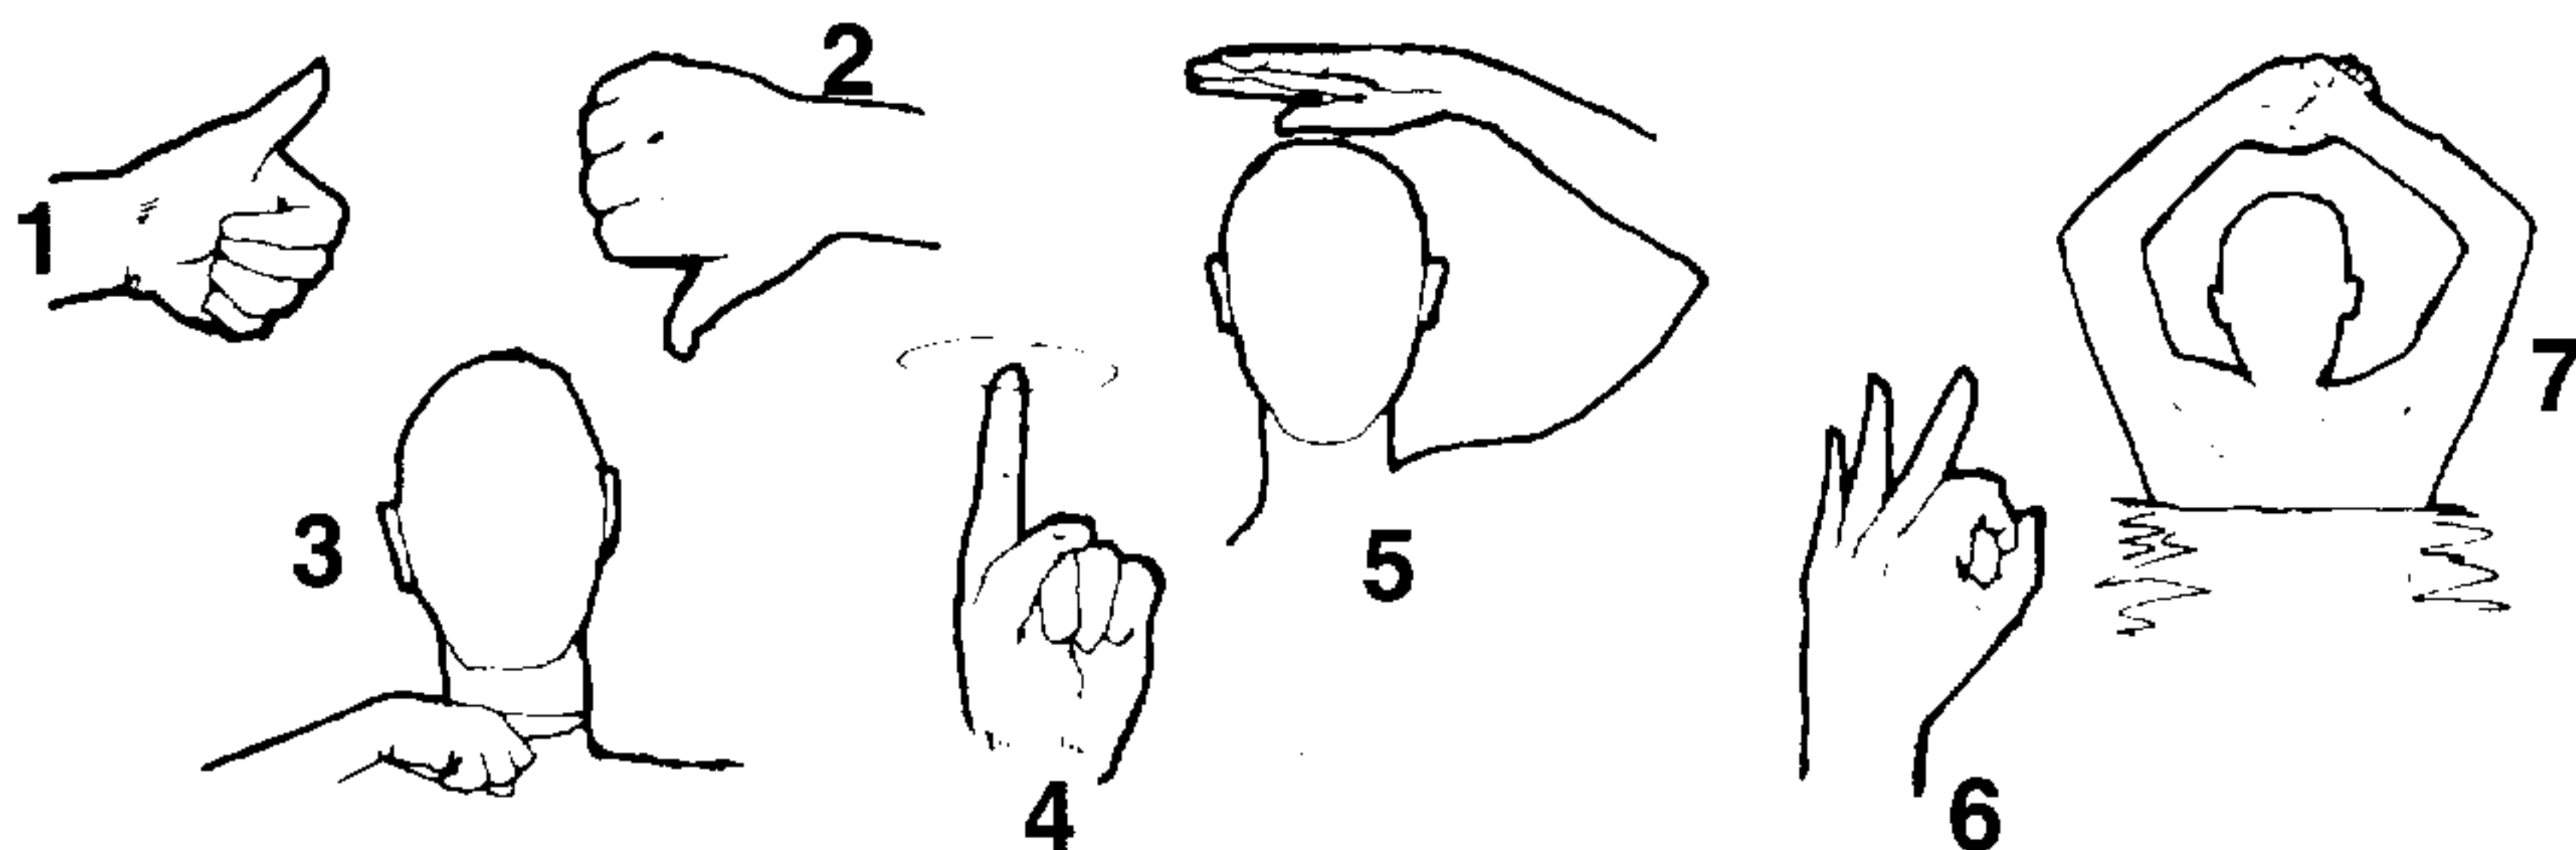

FIGURE 2.12 SKIER'S HAND SIGNALS
3. Have a second person aboard to observe the skier and inform the driver about the skier's hand signals (Figure 2.12). The driver must give full attention to operating the boat and the waters ahead.